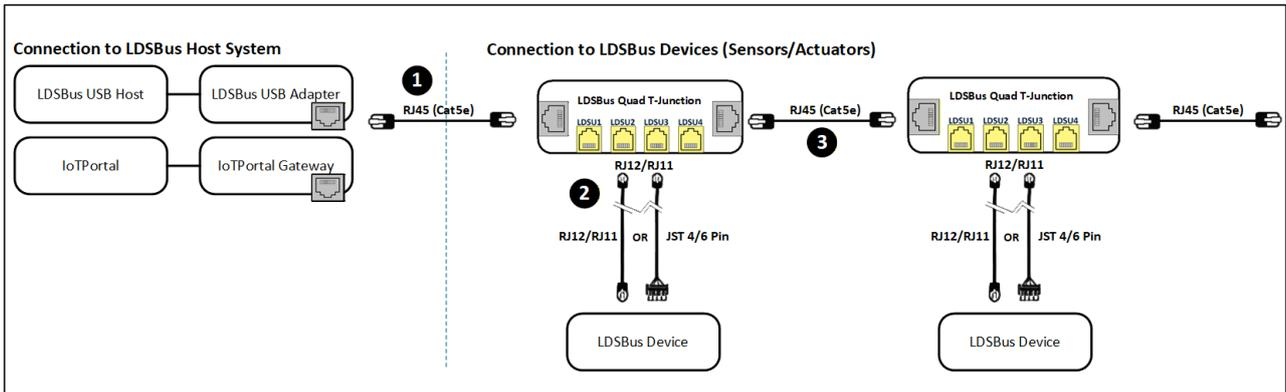

Figure 2 - Connection Diagram
Figure 2 illustrates the connection of the LDSBus DO Sensor Adapter (LDSBus Device) to the LDSBus. Please visit <https://brtsys.com/resources> to view the full device application, setup, and installation guides.
1. Connect the first LDSBus Quad T-Junction to any of the LDSBus Host Systems using the RJ45 (CAT5e) cable as shown in Figure 2.
2. Connect the configured LDSBus DO Sensor Adapter to the LDSBus Quad T-Junction as shown in Figure 2.
3. If there is more than one LDSBus Quad T-Junction, chain them together as shown in Figure 2.